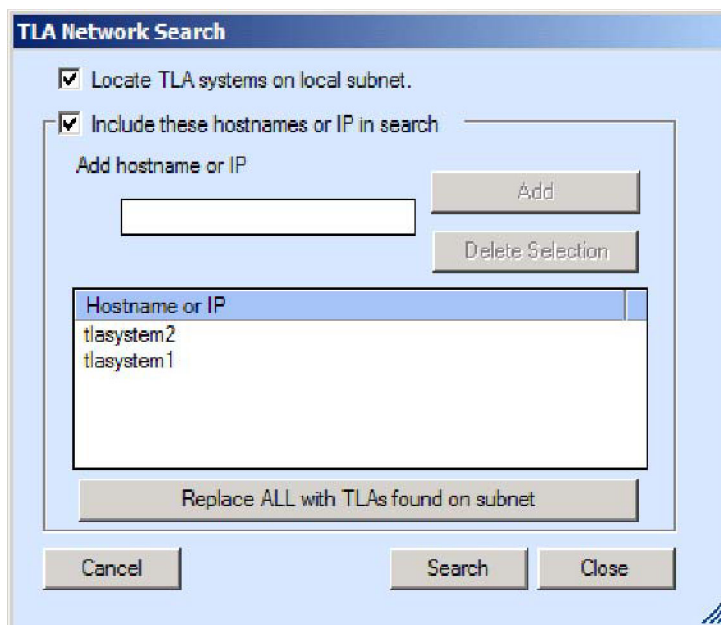

Figure 27: TLA Network Search dialog box
- a. Click  (Search icon) to open the TLA Network Search dialog box. (See Figure 27.)